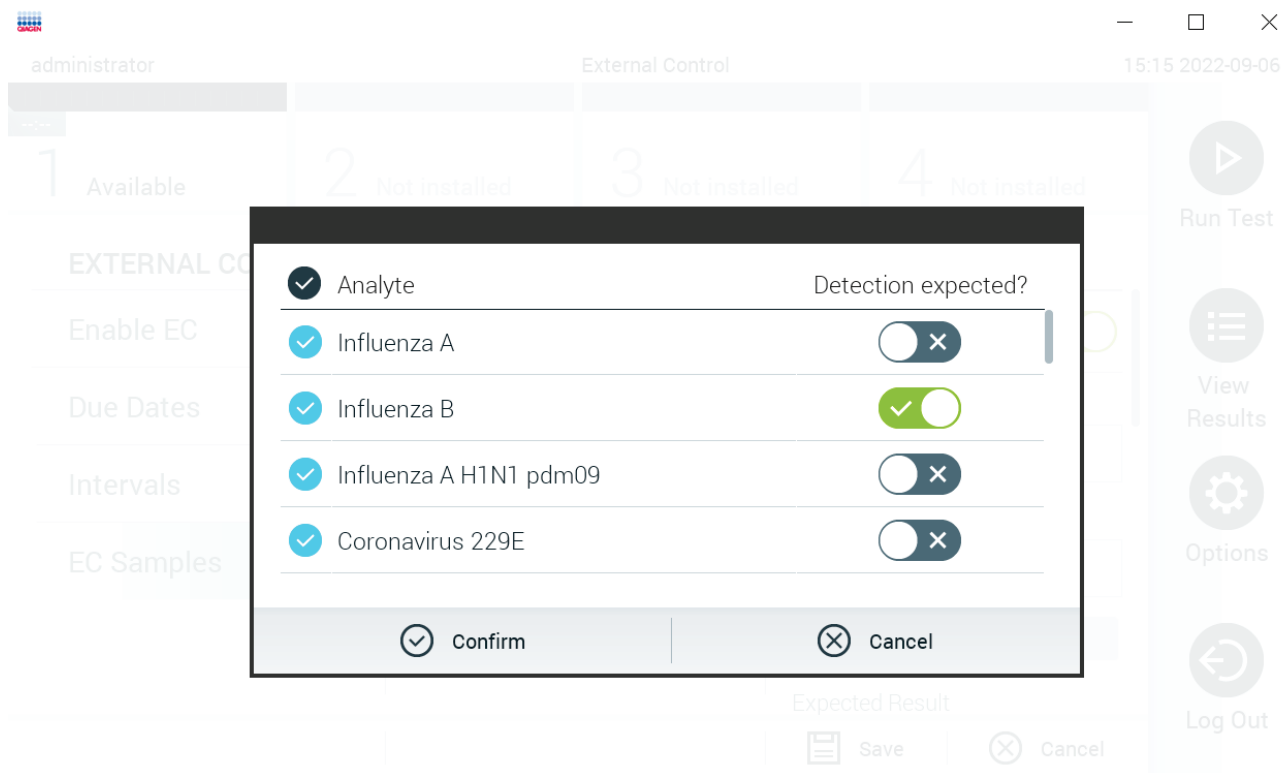

Figure 54. External Control EC Sample configuration screen.
6. Select **Configure** to edit the analytes in an External Control test (Figure 53). In the External Control EC Sample configuration, it can be determined whether an analyte is considered for the External Control EC run and whether a detection is expected (Figure 54).